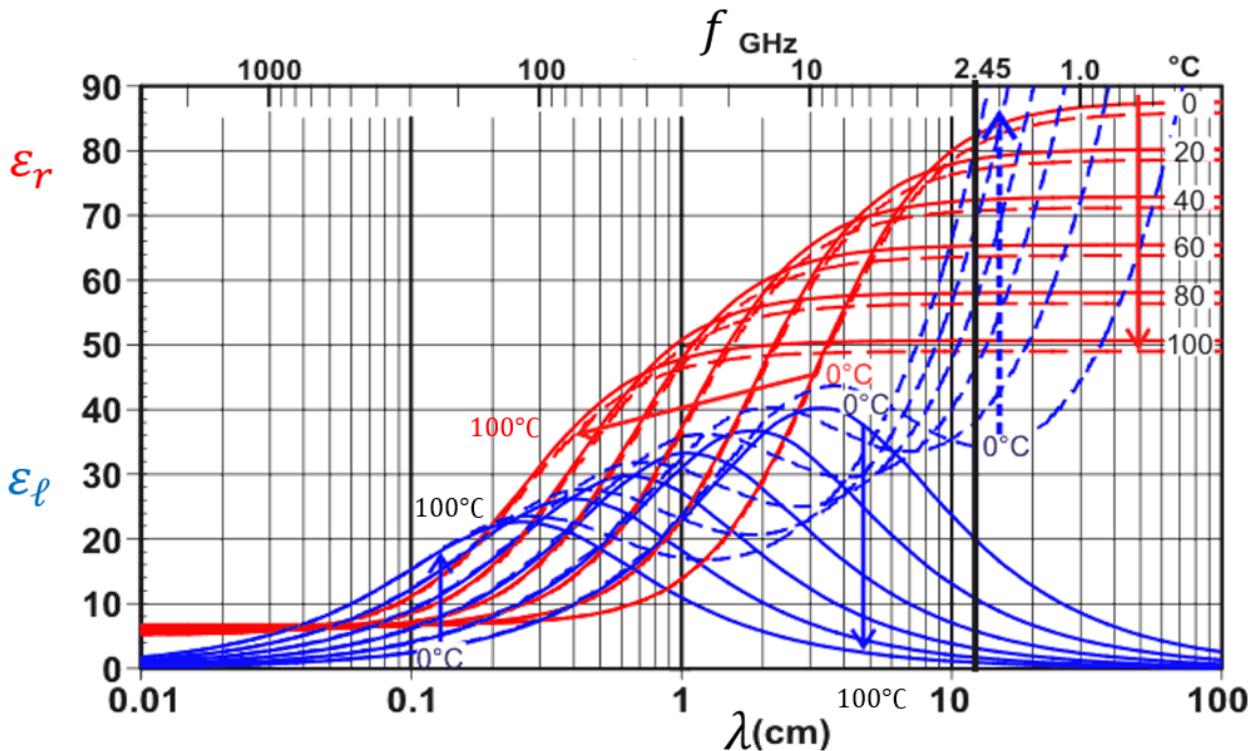

Figure 5. The arrows indicate the variation with temperature across the curves from 0°C to 100°C .
Figure 5 depicts ϵ_l (blue) and ϵ_r (red) for both pure water (solid lines) and a dilute solution of salt in water (dashed lines) as functions of wavelength or frequency, at several different temperatures. The angular frequency $\omega = 2\pi \cdot 2.45 \cdot 10^9 \text{ s}^{-1}$ is indicated by a bold vertical line. Below we will consider microwave radiation at this frequency only.
- B.5** Use Figure 5 to address the following questions: 0.7pt